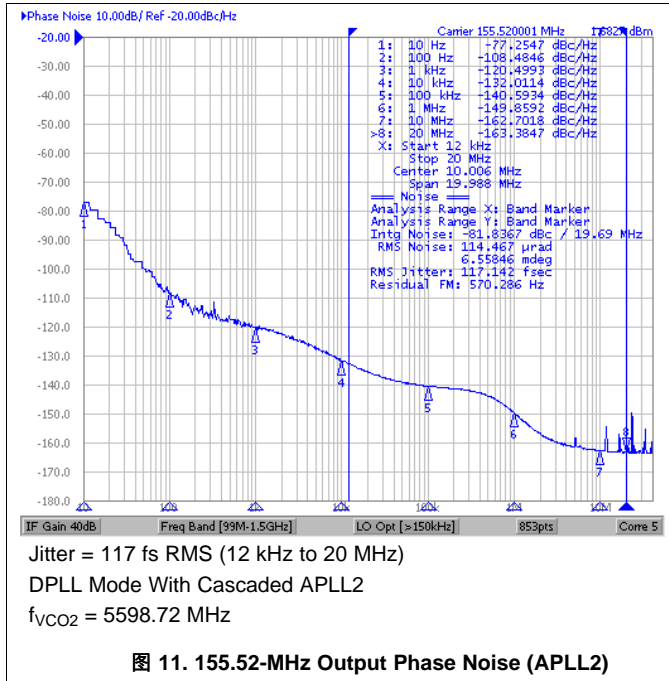

图 11. 155.52-MHz Output Phase Noise (APLL2)
**APLL2:** fPD2 = 138.8 MHz (fVC01÷18), BWAPLL2 = 500 kHz, Cascaded APLL2 mode for 图 11 and 图 12.
APLL2:  $f_{PD2} = 138.8 \text{ MHz}$  ( $f_{VCO1} \div 18$ ),  $BW_{APLL2} = 500 \text{ kHz}$ , Cascaded APLL2 mode for 图 11 and 图 12.